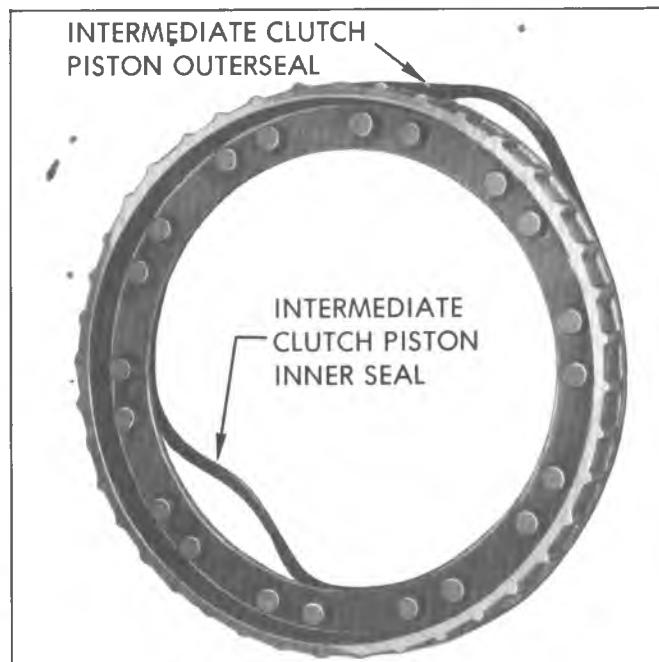

Fig. 57M--Removing Intermediate Clutch Piston Inner and Outer Seal
4. Remove intermediate clutch piston inner and outer seals (fig. 57M).